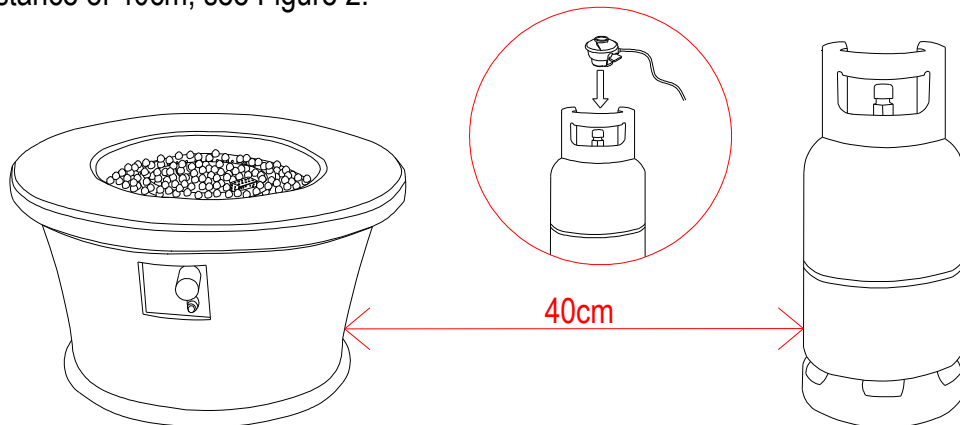

Figure 2
3. Clip directly the gas regulator onto the manifold inlet fitting, NOTE the fire and gas cylinder must have minimum distance of 40cm, see Figure 2.